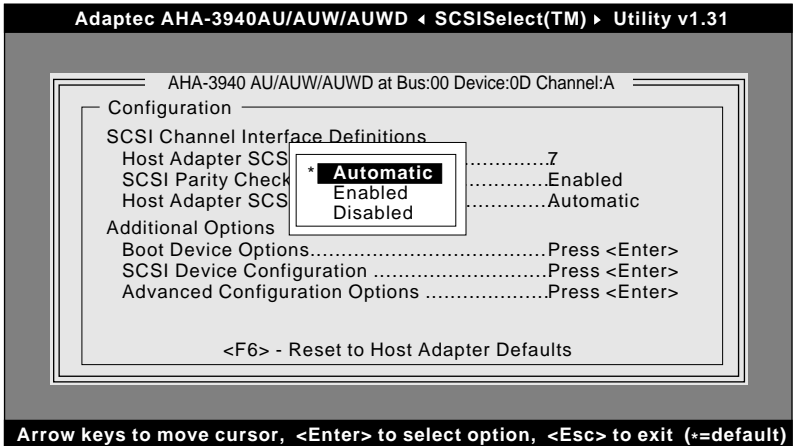
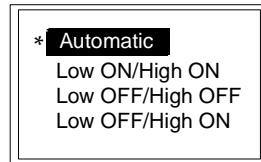

Figure 3-7. Host Adapter SCSI Termination Selection for AHA-3940U
Figure 3-8. Host Adapter SCSI Termination Selection for AHA-3940UW
- 2 Highlight **Host Adapter SCSI Termination**, then press **Enter**. The termination options for the host adapter appear in a pop-up menu. Figure 3-7 shows the termination options for the AHA-3940U.
Figure 3-8 shows the termination options for the AHA-3940UW if the devices connected to Channel A use both the 50-pin and 68-pin internal connectors. If the devices are connected to Channel B using the 68-pin external and internal connectors, the options are the same as displayed in Figure 3-7.